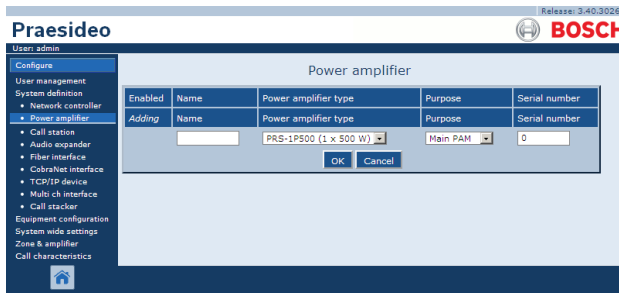

figure 42.5: Add power amplifier, step 2
- 2 Click the *Add* button to add a new power amplifier to the system. A screen similar to the one in figure 42.5 appears in the main frame of the web interface.